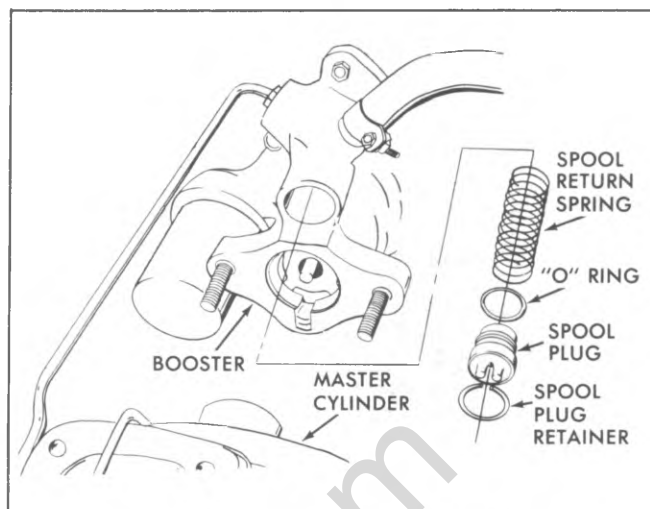

Fig. 5-59--Spool Valve Plug Removal
3. Push spool valve plug in and use a small screwdriver to remove retaining ring (fig. 5-59).
1. Install "O" ring and spool valve plug (fig. 5-59).